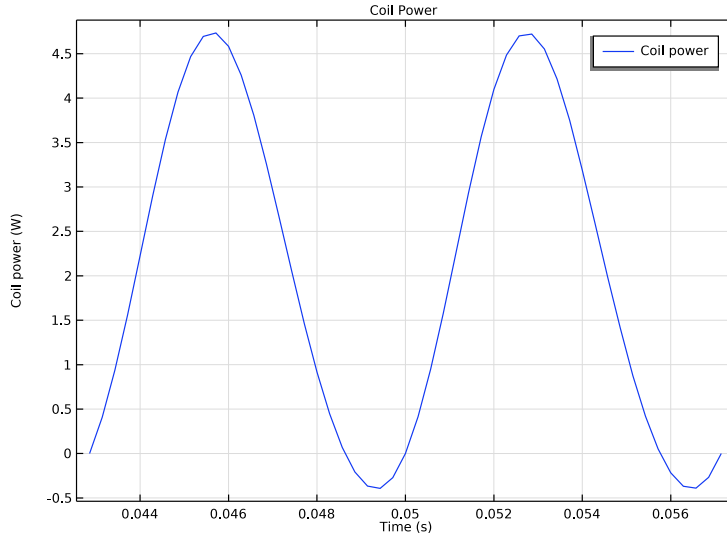
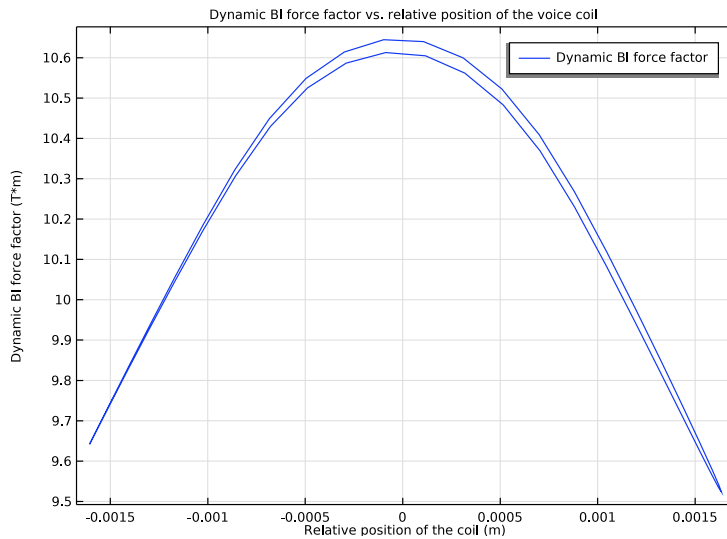

Figure 9: Coil power at the steady state.
Figure 10: Dynamic BL force factor vs. relative position of the voice coil.
The plots of the coil power and the dynamic force factor (BL) are depicted in Figure 9 and Figure 10. You can see that the coil power is negative over certain time intervals. This means that the power flows from the voice coil into the circuit, that is, the voice coil operates in the generator mode. The RMS value of the power is of course positive.